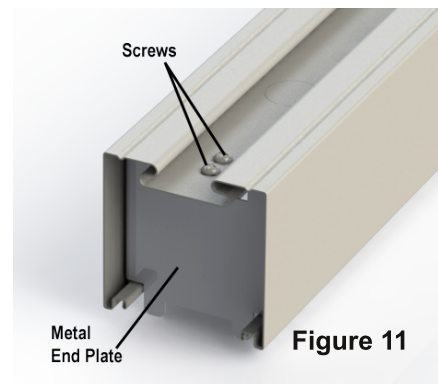

Figure 11
- After the previous steps are completed, the Metal End Plates need to be installed in the ends of each Row. (Nut Plates for Corner Connectors cannot be installed after Metal End Plates are installed.) The Metal End Plates are included in End Cap Sets BEC-BL and ODI-BL. The Metal End Plates (see Figure 11) are inserted into the Trunk 1/2" from the end and held in place with two sheet metal screws. Metal End Plates are to be used on all Rows.